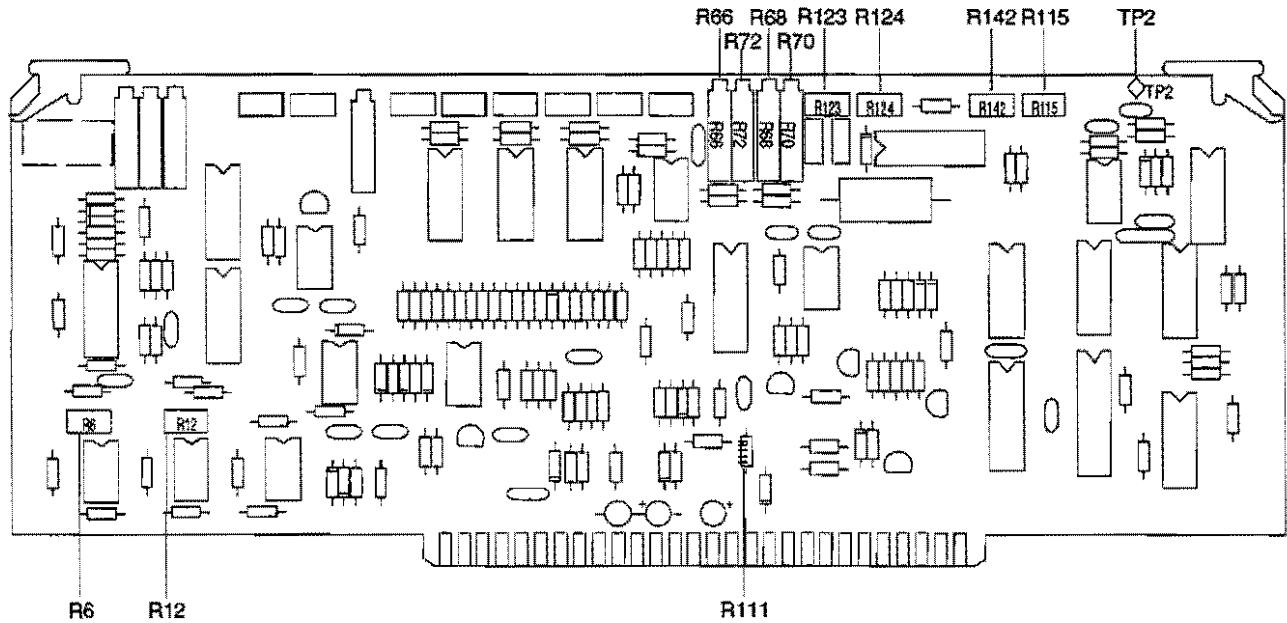

Figure 10-20. A4 PCB Component Locations
- Step 3.** Withdraw the A4 PCB and clip the center conductor lead on the function generator output to the bottom of A4R111 (Figure 10-20). Clip the shield lead to A4TP2.
- Step 3.** Adjust A4R123 (Figure 10-20) and A6R33 (Figure 10-17) for a squarewave with minimum overshoot.
- Step 3.** Adjust A4R124 (Figure 10-20) and A6R66 (Figure 10-17) for a square wave with minimum overshoot. (Recheck the adjustment at 5 GHz.)
- Step 2.** Adjust A4R12 (Figure 10-20) for minimum jitter (amplitude variations), as indicated on the oscilloscope.
- a. Adjust A4R66 (Figure 10-20) for +5 dBm \pm 0.5 dB.
- c. Adjust A4R72 (Figure 10-20) for -5 dBm \pm 0.5 dB.
- a. Adjust A4R66 (Figure 10-20) for +10 dBm \pm 0.5 dB.
- c. Adjust A4R72 (Figure 10-20) for 10 dBm \pm 0.5 dB.
- c. Adjust A4R66 (Figure 10-20) for +10 dBm \pm 0.5 dB.
- c. Adjust A4R66 (Figure 10-20) for +5 dBm ± 0.5 dB.